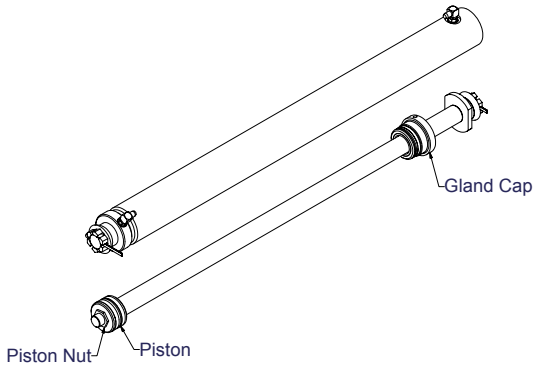

Figure 4-8, Piston Seal
6. Remove the piston retaining nut and remove the piston. (Figure 4-8)